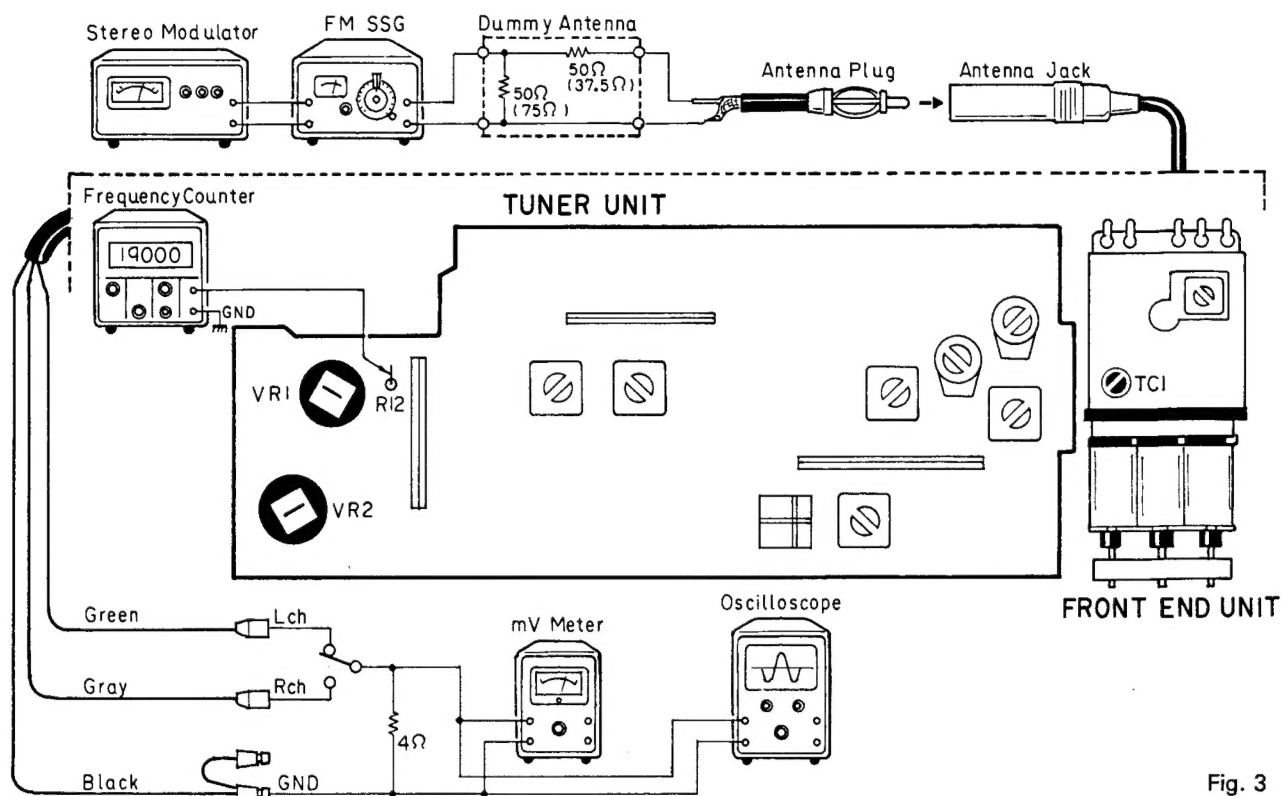

Fig. 3
- **Connection Diagram (shown in Fig. 3)**